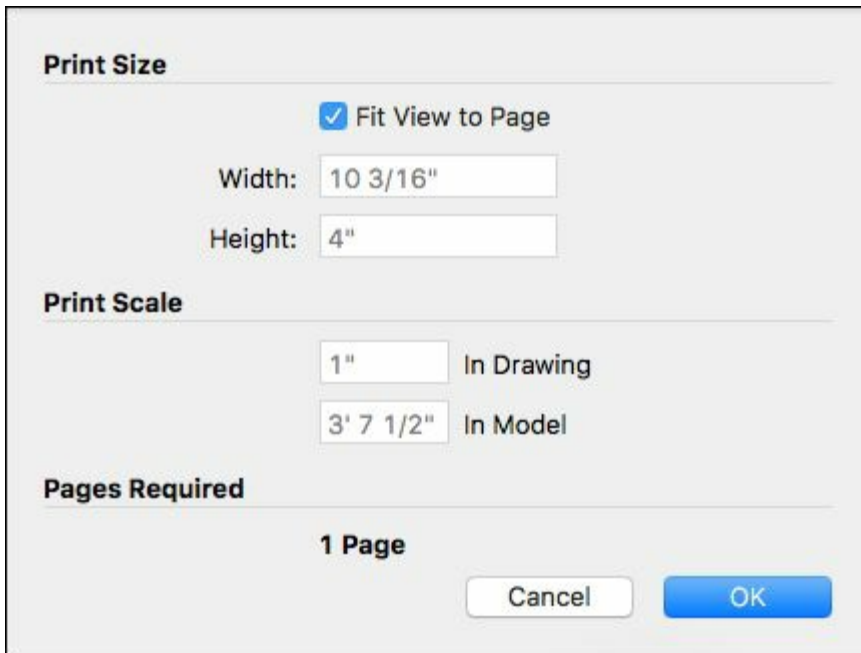

FIGURE 12-6: The Mac Document Setup dialog box.
You use the settings in the Document Setup dialog box shown in Figure 12-6 to control how big your model prints. Here's what everything does:
- » **Pages:** If the Pages Required readout at the bottom of the Document Setup dialog box (refer to Figure 12-6) said that you need more than one sheet to print your image, you can choose to print all or some of those pages right here.